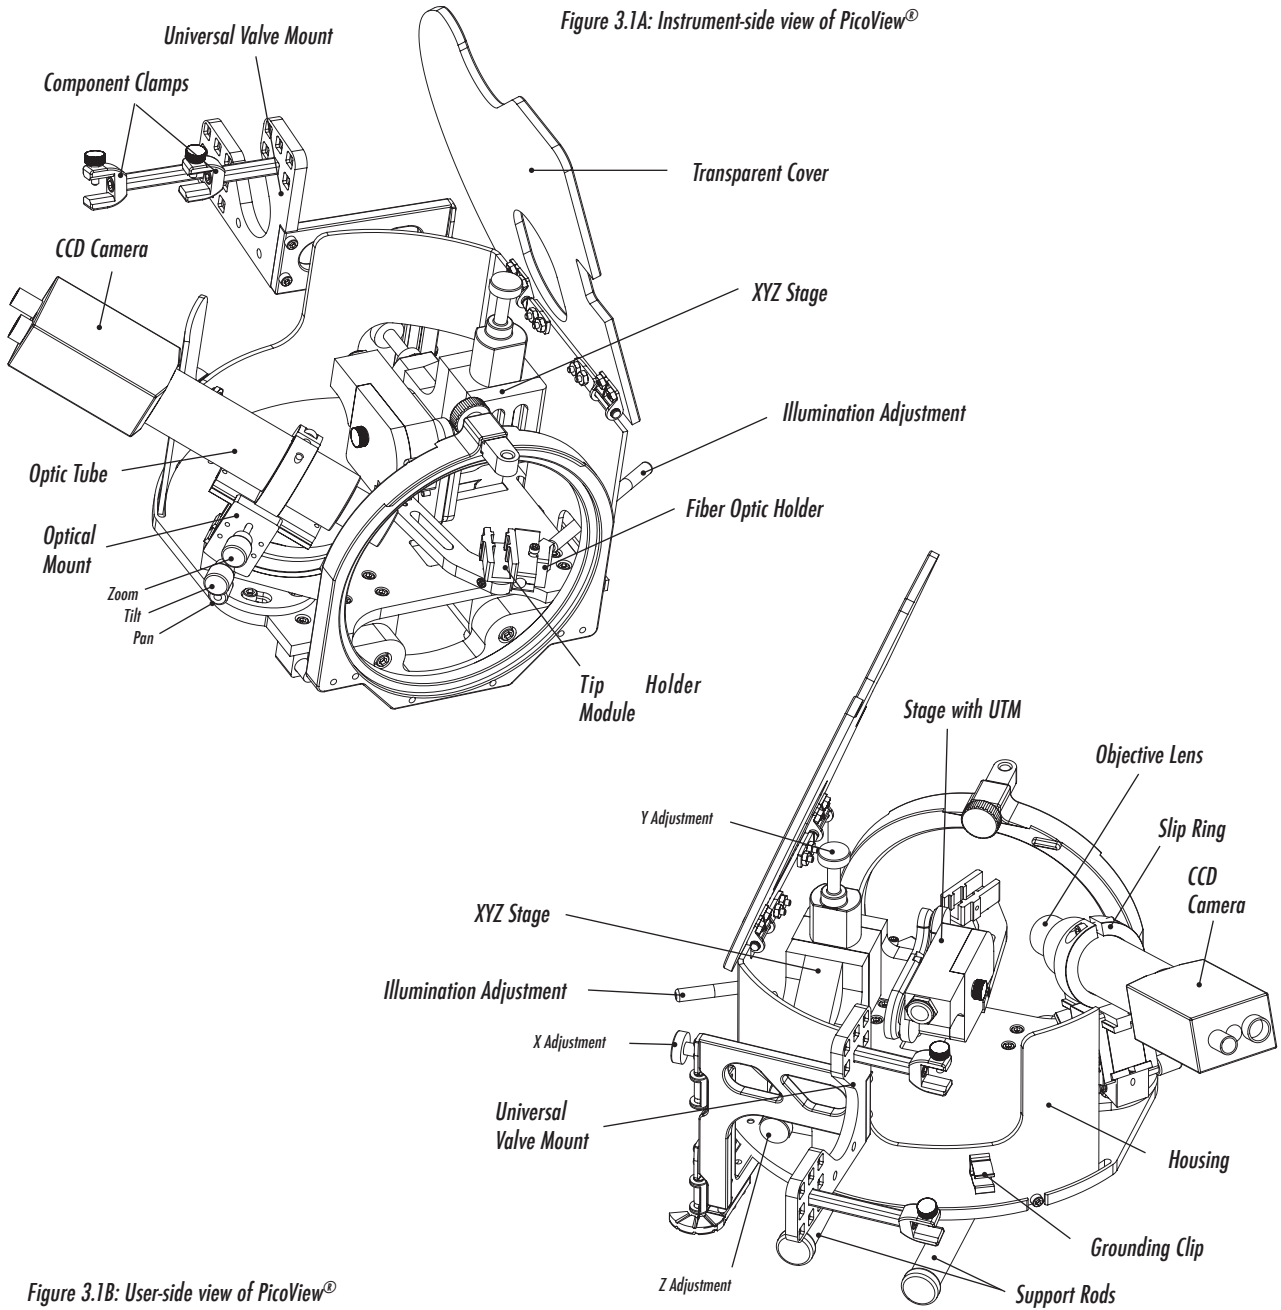

Figure 3.1B: User-side view of PicoView®
- 1) The coupler holds a lens which focuses the illumination on the nanospray emitter and can be adjusted to accommodate for tip position using the Illumination Adjustment knob (see Figure 3.1B on page 9). The fiber optic cable is held within the mount by a spring-loaded clamp. The amount of friction holding the fiber optic can be adjusted by loosening or tightening the thumb screw.